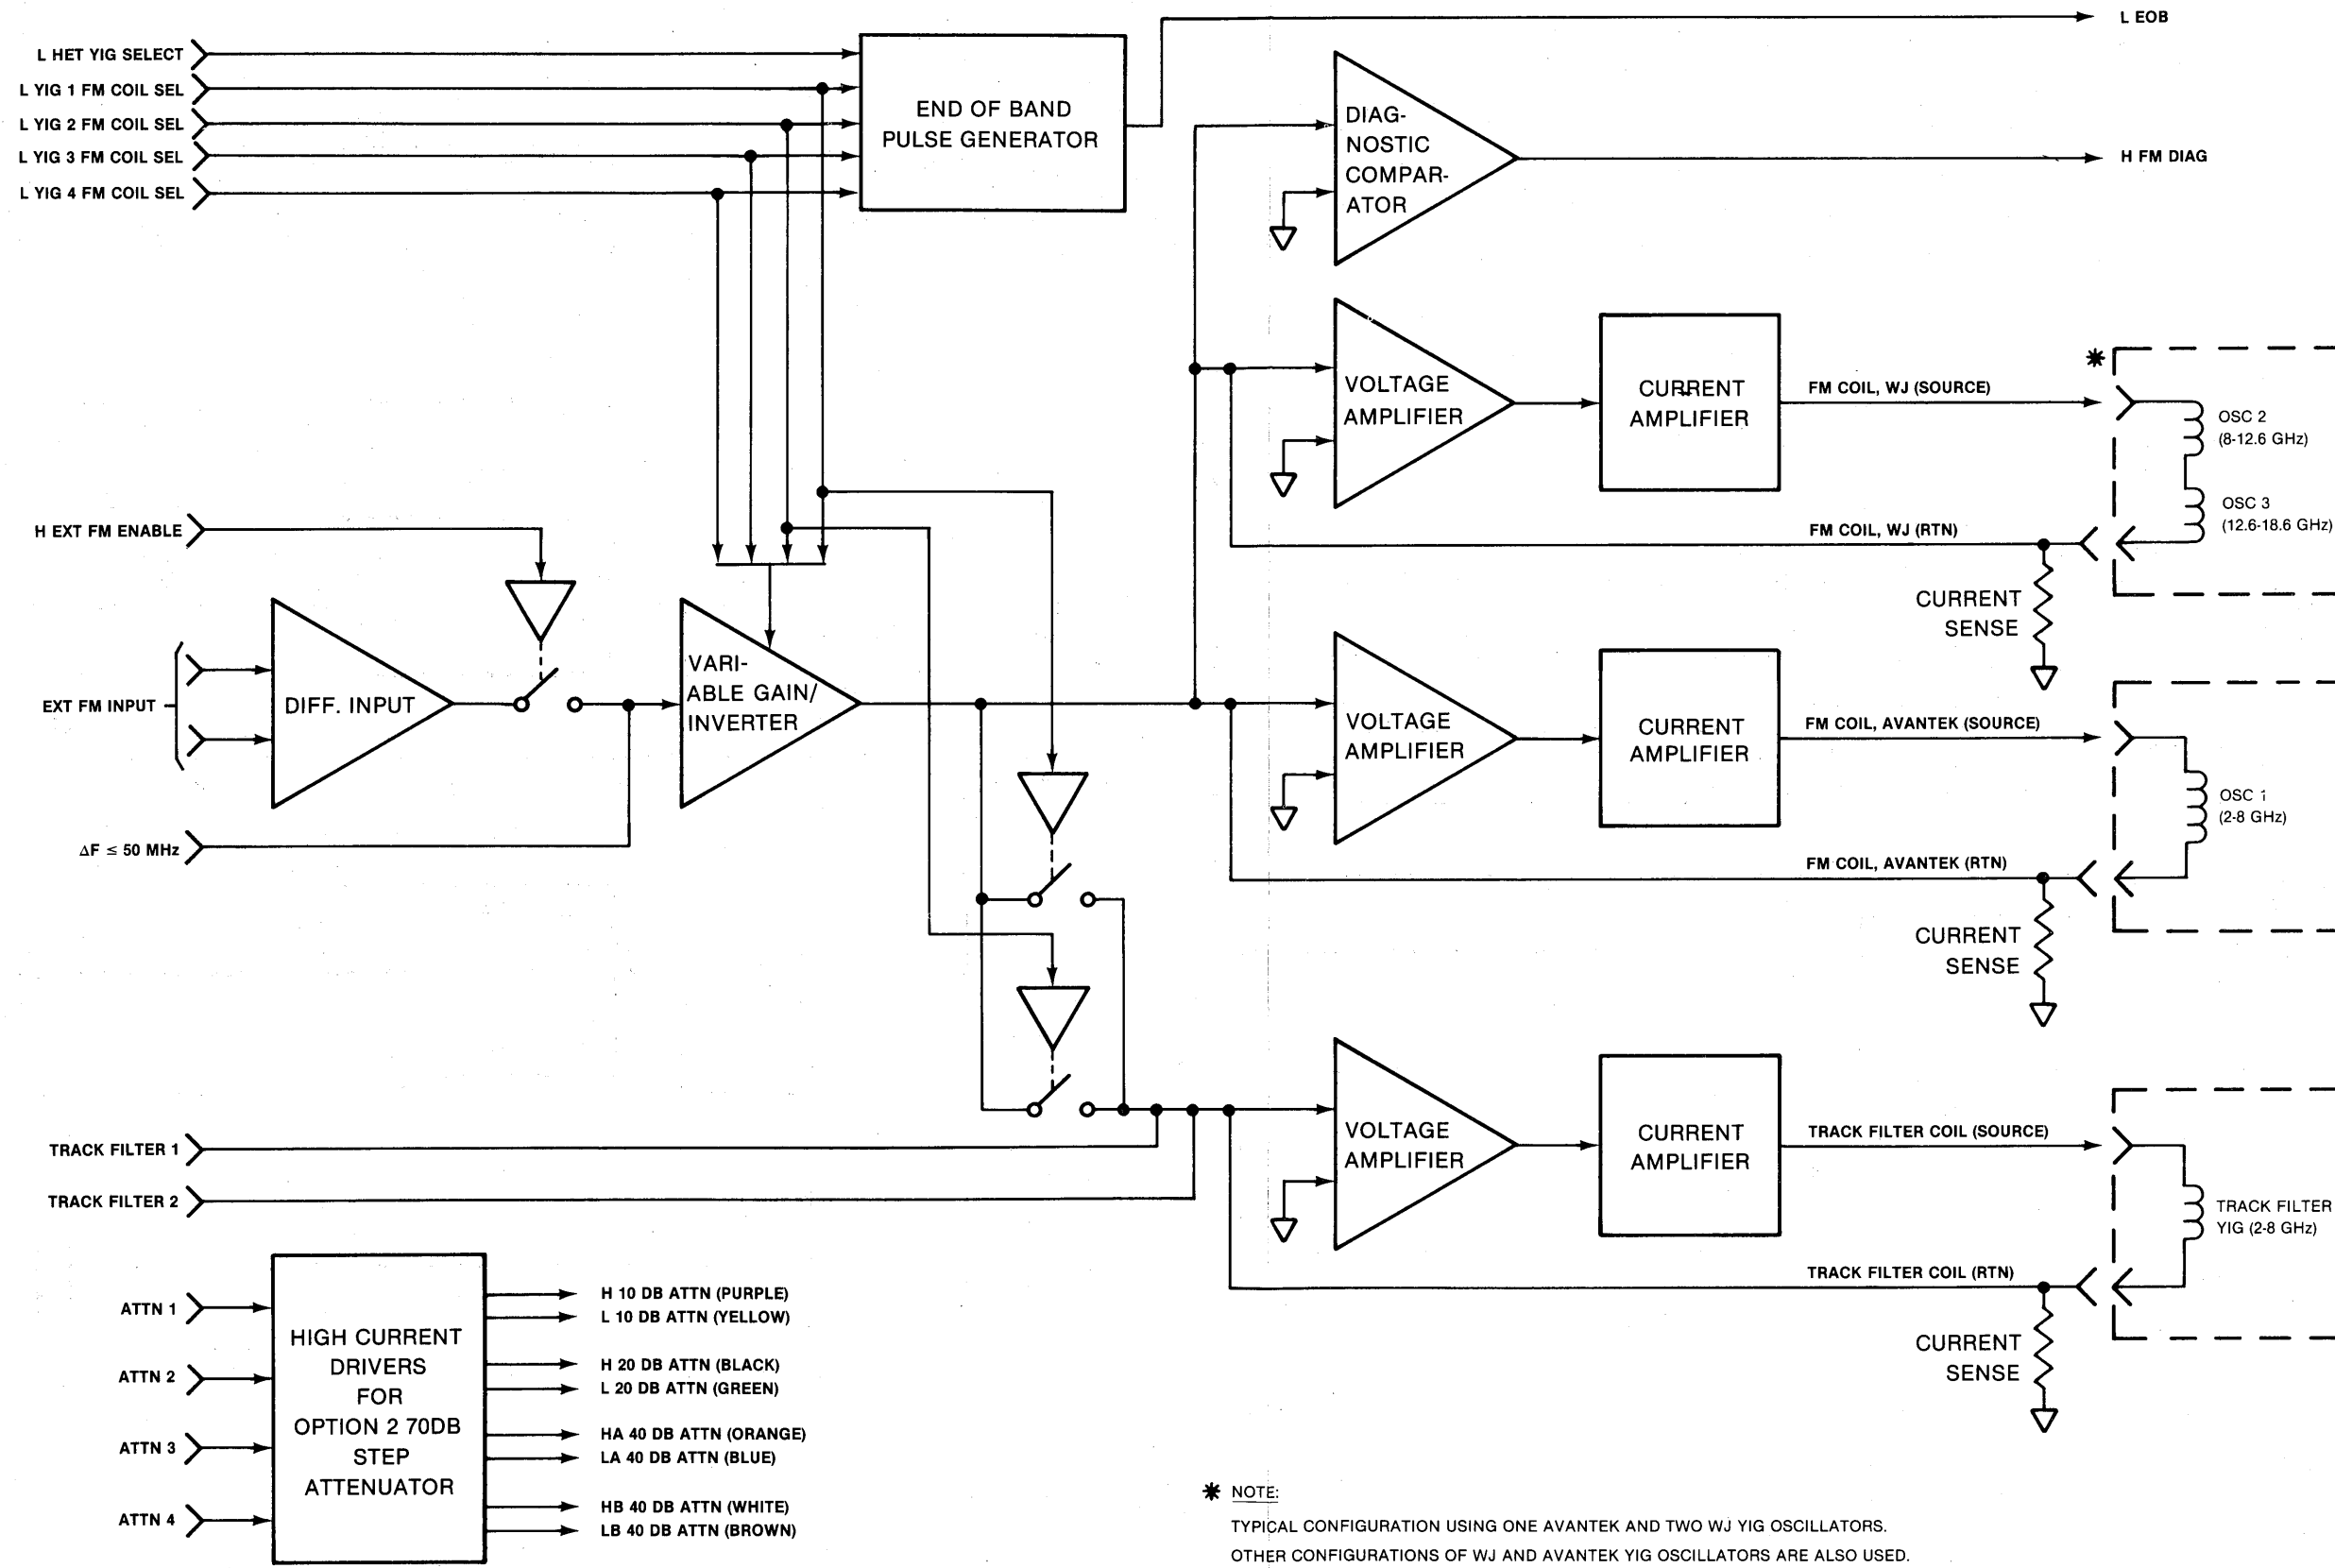

Figure 7-89. A10 FM/Attenuator PCB Functional Block Diagram
The A10 FM/Attenuator PCB has two primary functions. The PCB generates currents that control (1) FM modulation for the YIG oscillators, (2) drive for the 2 to 8 GHz YIG tracking filter, and (3) operation of the optional 70 dB Step Attenuator. In addition, this PCB generates the End of Band (EOB) signal that is used on the A2 PCB (paragraph 7-9.1). A functional block diagram of the A10 circuitry is shown in Figure 7-89; the schematic diagram (2 sheets) is shown in Figure 7-90.
The FM input enters this PCB on either the EXT FM INPUT signal line, the $\Delta F \leq 50$ MHz signal line, or on both concurrently (Figure 7-89). The $\Delta F \leq 50$ MHz signal line is from the A5 Frequency Instruction PCB. If a delta-frequency sweep mode ($\Delta F F0$, $\Delta F F1$) has been selected and the sweep width (ΔF) is 50 MHz or less, this input is a voltage ramp. As described in paragraph 7-12.1, the amplitude of this ramp depends on the sweep width. For a sweep width of 50 MHz, the amplitude of the ramp is 10 volts (from -5V to +5V). For sweep widths less than 50 MHz, the amplitude of the ramp is proportionally less than 10 volts.